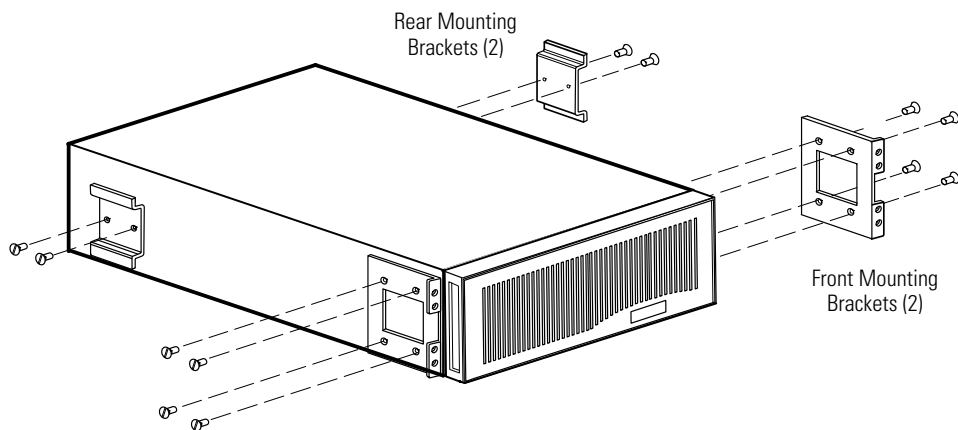

Figure 6. Installing the EBM Front and Rear Mounting Brackets
10. Align the two front mounting brackets with the screw holes on the sides of the EBM and secure with eight supplied M4 flat-head screws (see Figure 6).